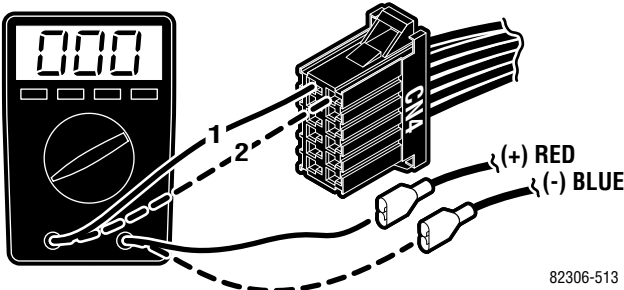

Figure 5-14.
- 2. Using an ohmmeter, test for continuity between pin 1 of CN4 and battery (+) connector. Also test between pin 2 of CN4 and battery (-) connector. See figure 5-14.